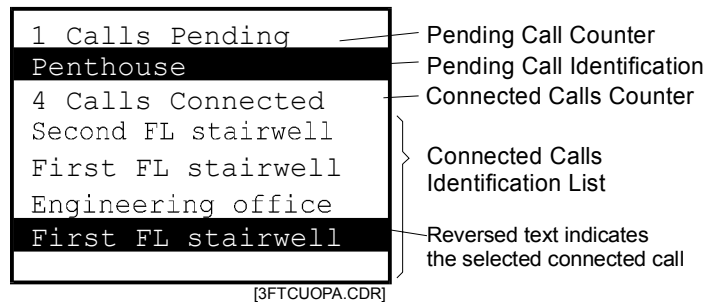

Figure 4-8: 3-FTCU Display, One Pending Call and Four Connected Calls
2. Press the Disconnect switch. The call will be removed from the connected calls list and added to the pending calls list as shown in Figure 4-8 below. When the remote phone is hung up or removed from the phone jack, it will be removed from the calls pending list.